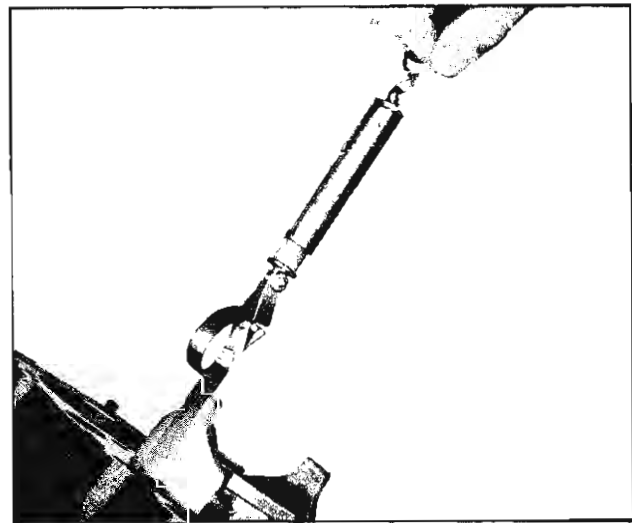

Fig. 63—Checking Piston Fit
- c. Pull the feeler gauge straight up and out, noting at the same time the scale reading which should be between 7 and 18 pounds (fig. 63).